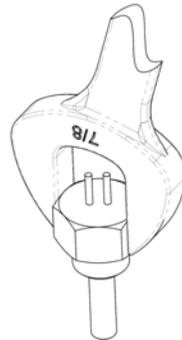

Figure 77-16 Positioning the Wrench to Remove the Oil Temperature Sensor
With the two Adel wire clamps out of the way, there is just enough room to get the wrench on to the sensor and turn it just enough to break the threads free. Then bring the wrench straight down from the top and complete the removal of the sensor. See Figure 77-16 to see the correct positioning to complete the removal of the oil temperature sensor.
11. Insert oil temperature sensor assembly into the hole for the oil temperature sensor. Use a 7/8-inch wrench as shown in Figure 77-16 to turn-in the oil temperature sensor.